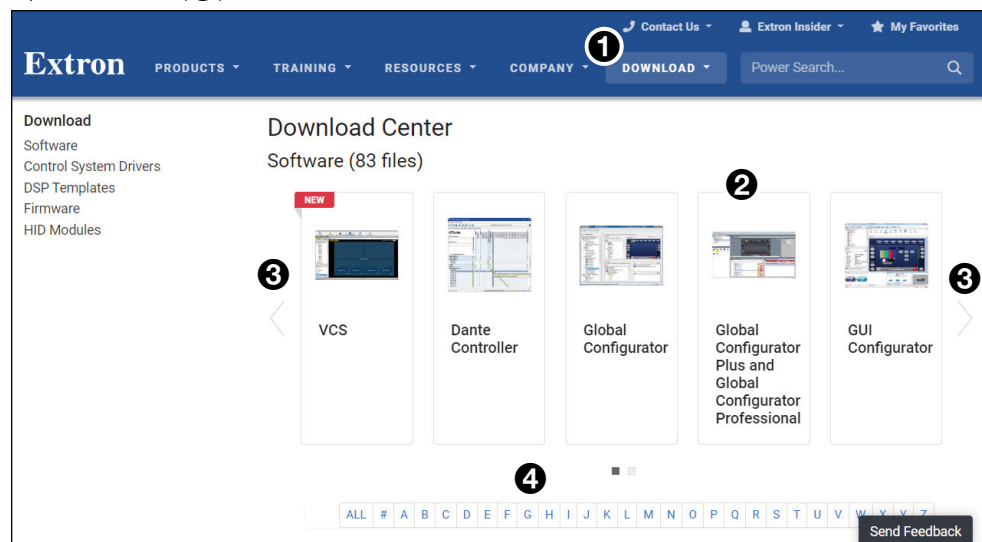

Figure 25. Downloading Software
You may see the product immediately, for example Global Configurator Plus and Professional (see figure 25, ②). Use the left and right arrows (③) to scroll through all the highlighted products. If the software is not shown, click the initial letter of the product in the alphabet menu (④).